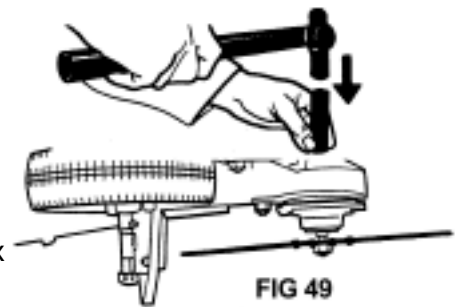

FIG 49
4. With a soft punch, tap hex end blade shaft as in Fig 49 until cover and gear assembly pops out of body housing.